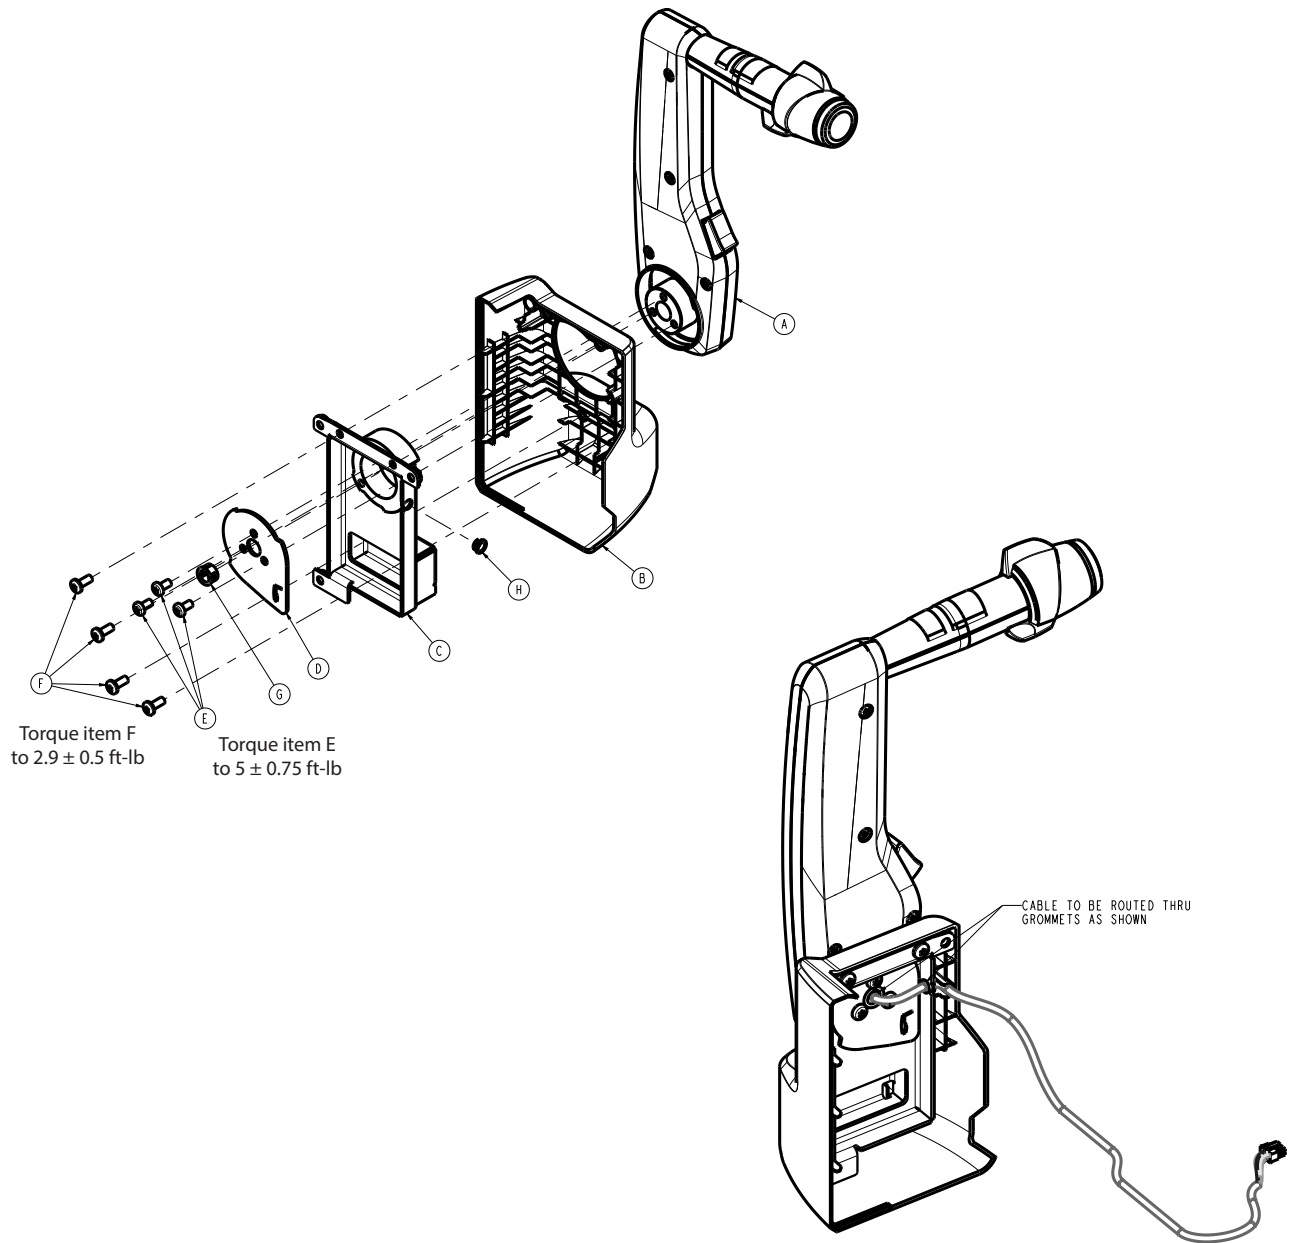

Figure 74 – Removing the Zoom drive handle
12. Using a T30 Torx driver, remove the three screws (E) that secure the Zoom drive handle (A) to the bumper (B) and remove the pivot plate (D) (Figure 74). Save the pivot plate.